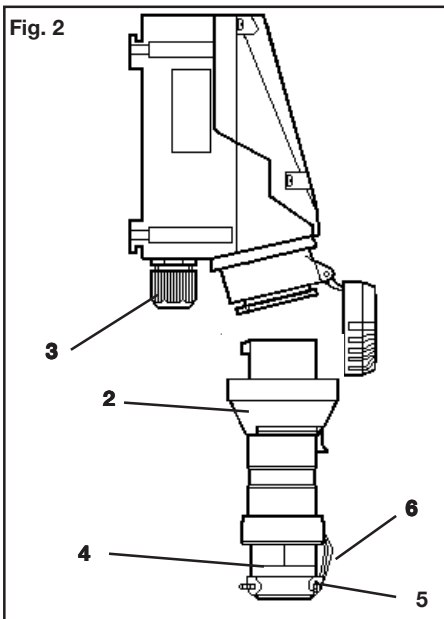

Fig. 2
In order to ensure the socket's type of protection acc. to the type label also with the plug being inserted, the bayonet ring of the plug (page 9, fig. 2, item 2) is turned to its stop onto the socket.
The wall sockets, flange sockets and couplers shall be mounted so that the plug hole points downwards (fig. 2).
In general, only the sealing inserts fitted in the plug or in the coupler may be used. When mounting the cable, attention has to be paid that sealing inserts matching the cable diameter be used. After having connected the cable, the coupling ring (page 9, fig. 2, item 4) is to be screwed fingertight until the sealing effect is obtained. Then the screws item 5, of the pull-relief item 6, are to be tightened down.